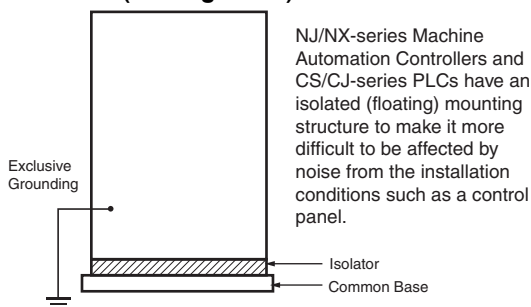

Figure 13. Example: Insulating and Grounding an Enclosure
- (1) If the same ground is used for both the signal lines and the enclosure, isolate the channel base (a grounded metal plate inside a control panel) with an insulating material. (See Figure 13)